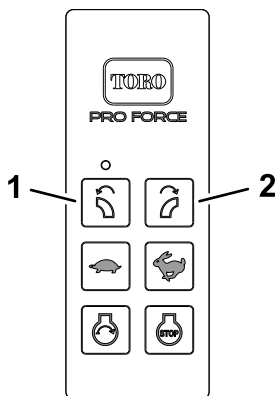

Figure 51
4. Simultaneously press and hold the ROTATE NOZZLE LEFT and ROTATE NOZZLE RIGHT buttons (Figure 51).
7. Press and hold the ROTATE NOZZLE LEFT button (Figure 51).
8. Continue holding the ROTATE NOZZLE LEFT button (Figure 51) and turn the ignition key start to the RUN position.
9. Release the ROTATE NOZZLE LEFT button (Figure 51), and rotate the ignition key to the STOP position.